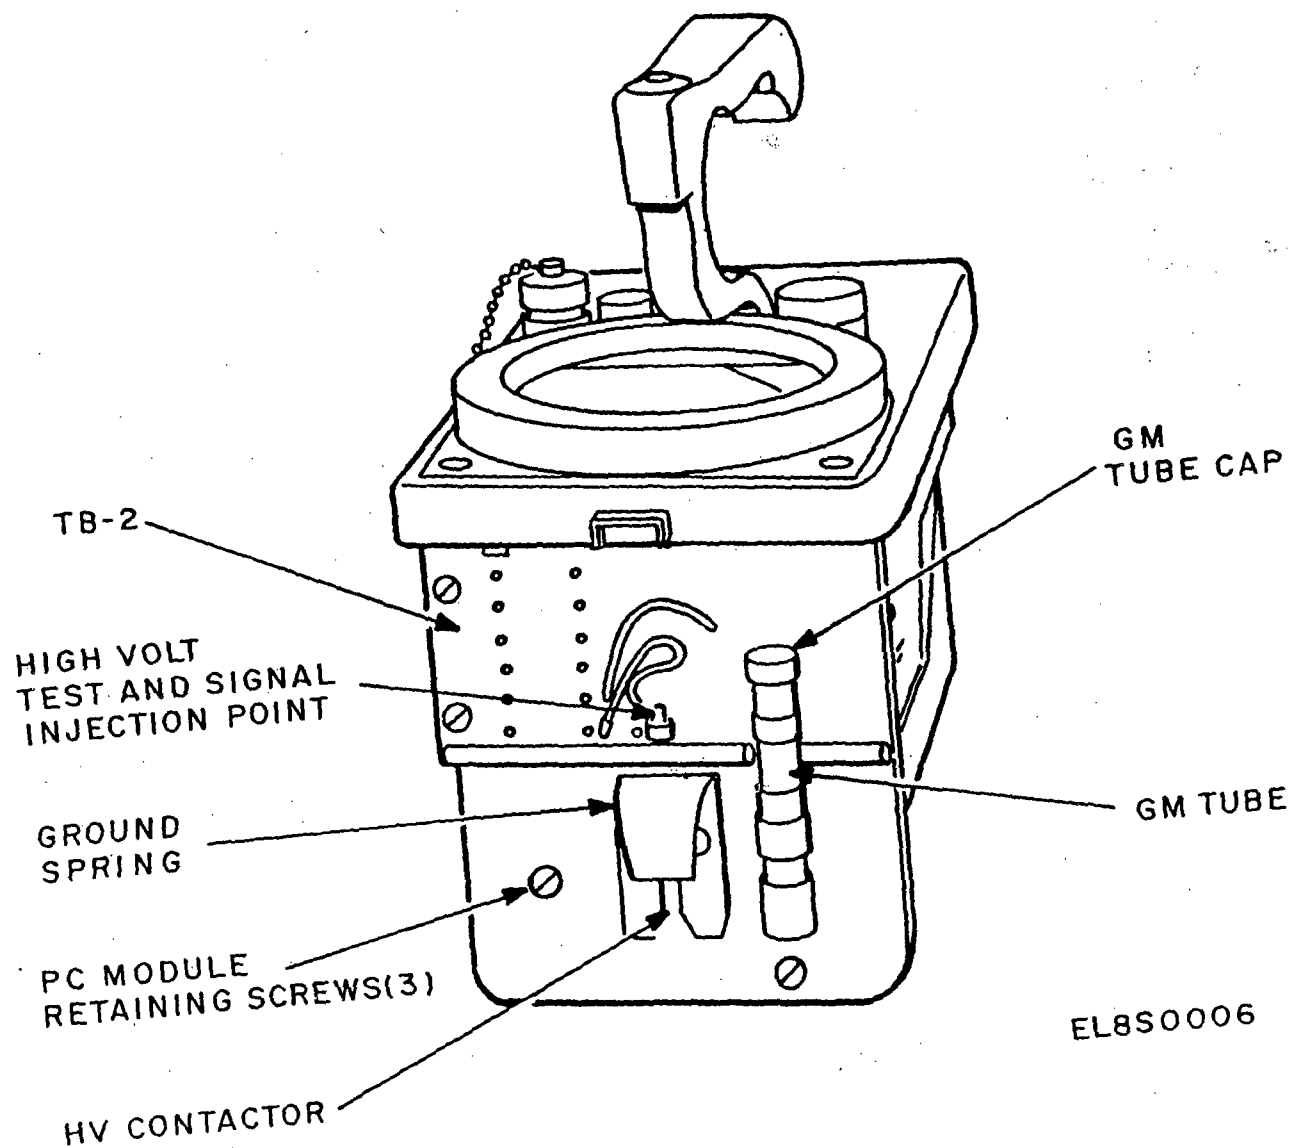

Figure 2-8. AN/PDR-60, Electronic Chassis.
- (2) Discharge the high voltage circuit to ground (fig. 2-8).
- (4) Connect the other end of the shielded jumper lead center conductor to the high voltage test and signal injection point on the electronic chassis (fig. 2-8).
- (5) Connect the jumper lead shield to the ground lead contacts in the case assembly and the electronic chassis.
- (6) Connect the AC-3 detector to the electronic chassis.
- (7) Set the detector selector switch to the AC-3 position.
- (8) Set the scale switch to the X1.0 position.
- (9) Check battery condition.
- (10) With the detector face protective cover in place, adjust the AC-3 DISCR control until the radiacmeter indicates approximately 50 CPM average.
- (11) Lock the DISCR control.
(12) Put on protective gloves and open the AN/UDM-6 case.
(13) Remove the detector face protective cover.
(14) Place the detector on the 1.4×10^3 CPM standard source.
(15) Observe and note the meter indication.
(16) Rotate the detector 180 degrees and place it on the 1.4×10^3 CPM standard source.
(17) Observe and note the meter indication.
(18) Obtain the average of the meter indications noted in (15) and (17) above. (This is accomplished by adding the two indications and dividing by two.) The average indication should be within ± 10 percent of the standard source CPM.
(19) If the average CPM is not as indicated in (18) above, adjust $\times 1.0$ calibration control (fig. 2-8) on the electronic chassis.
(20) Repeat (14) through (19) above if the calibration control has to be adjusted.
(21) Repeat (14) through (19) above for the other